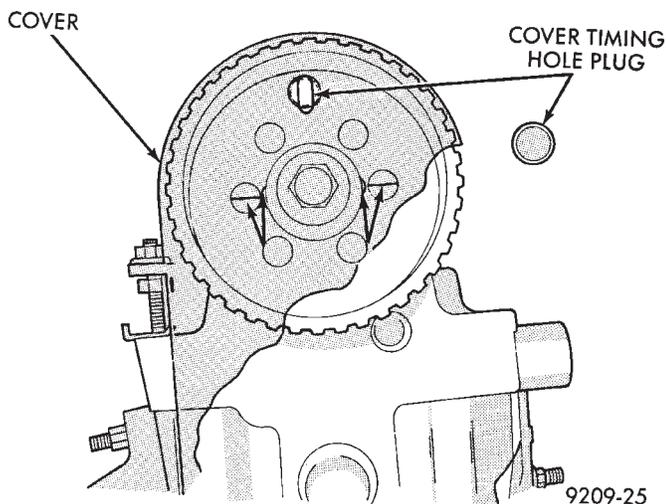

Fig. 12 Camshaft Timing
(2) Turn camshaft until arrows on hub are inline with No. 1 camshaft cap to cylinder headline. Small hole (arrow Fig. 12) must be in vertical center line.
(3) Install timing belt.
(13) Install fasteners holding cover to cylinder head and block. Tighten fasteners to 4 N·m (40 in. lbs.) torque.
(14) Valve Timing Check; (timing belt cover installed). With number one cylinder at TDC, small hole in sprocket must be centered in timing belt cover hole (Fig. 12). If hole is not aligned correctly perform procedure again.
(15) Install spark plugs.